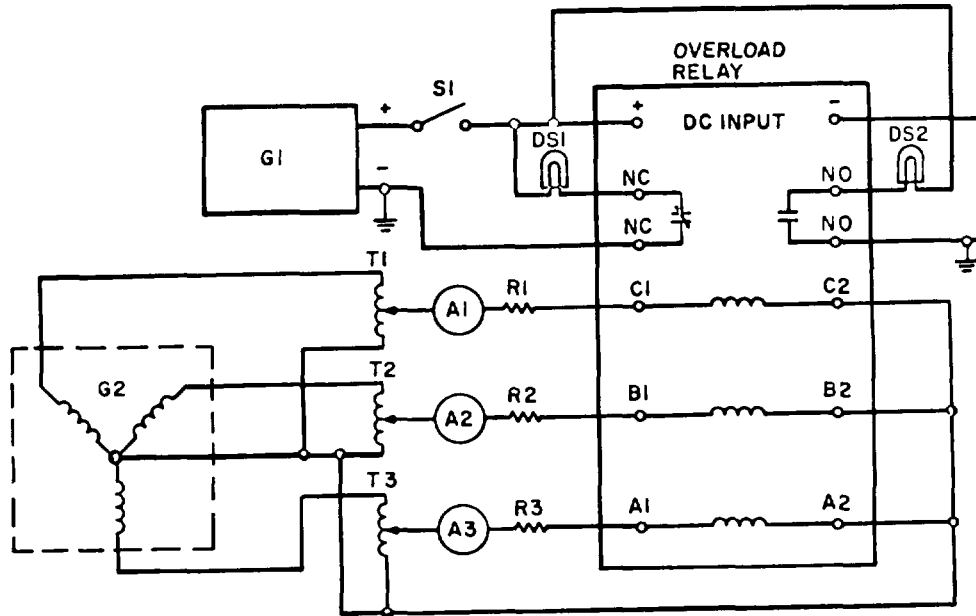
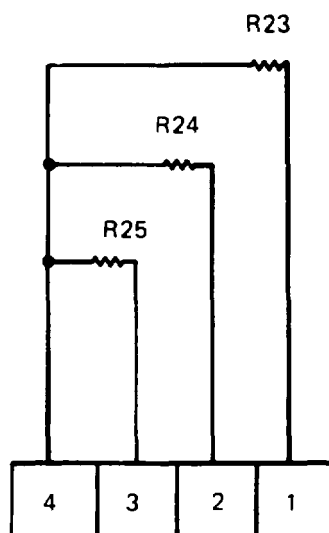

Figure 3-116. Overload Protective Device Test Circuit
Figure 3-117. Tactical Relay Resistor Assembly Schematic Diagram
- (12) Test overload protective device as follows:
- (a) Install over load protective device in test circuit shown in figure 3-116.
- (13) Replace any relay or protective device found to be defective.
- (14) Test tactical relay resistor assembly as follows:
- (a) Connect one lead of an ohmmeter to terminal number (4, figure 3-117).